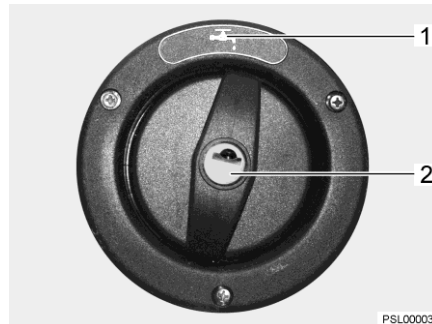

Fig. 152 Cap for the drinking water filler neck
The drinking water filler neck is indicated by the symbol "☞" (Fig. 152,1). The cap is opened and closed using the key for the external flap locks.
- Insert key into locking cylinder (Fig. 152,2) and turn a quarter turn in an anticlockwise direction.
- Open drinking water filler neck (Fig. 152).